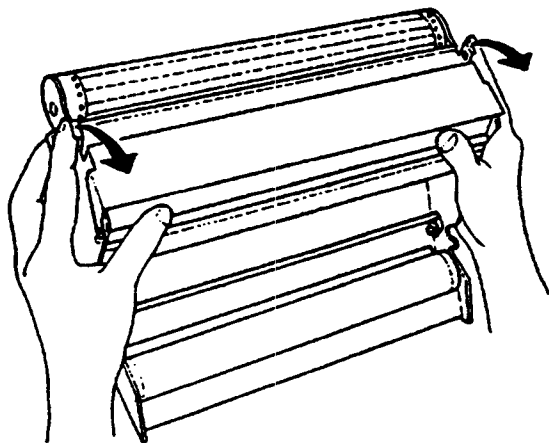

Figure 6.11
- (4) While pressing both right and left projections of the metal chart holder fitting at the rear section of the chart tray toward inside, lift it in the direction of the arrows with your hands and turn the metal chart holder fitting toward you. (See Figure 6.11)